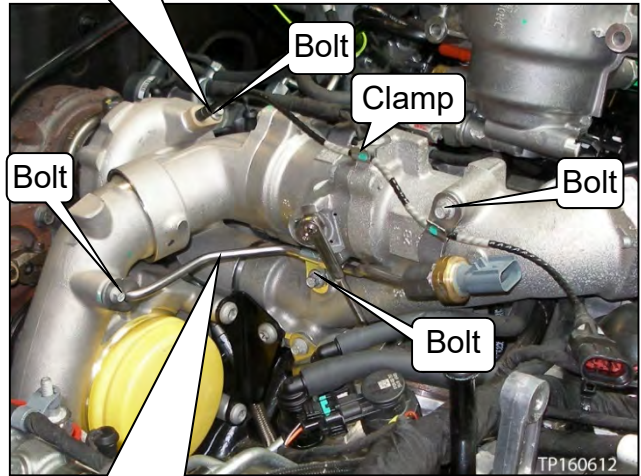

Figure 52
37. Remove the three (3) bolts, and then remove the low pressure turbocharger boost pressure sensor tube (see Figure 52).
38. Unbolt, unclamp, and then remove the high pressure turbocharger speed sensor (see Figure 52).